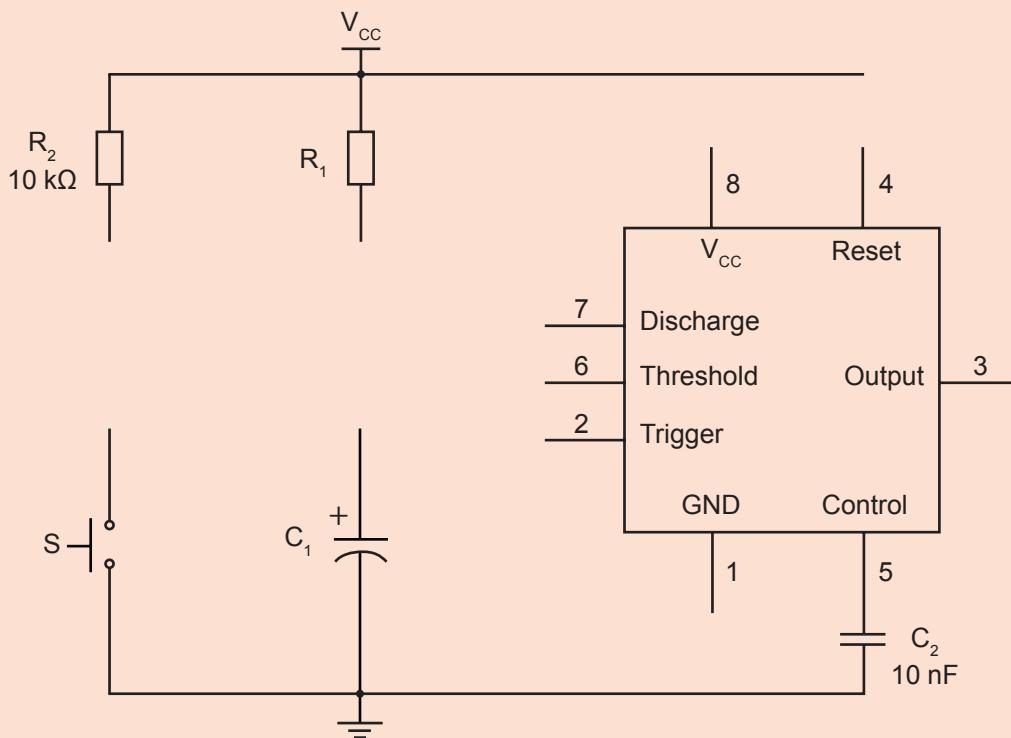

Figure 14.20
1. Complete Figure 14.20 to show how a 555 timer IC can be connected as a monostable multivibrator.